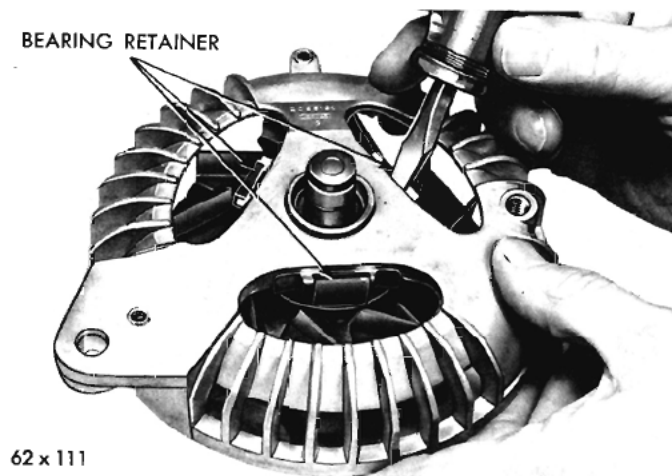

Fig. 26—Disengaging the Bearing Retainer from the End Shield
(8) Pry the drive end bearing spring retainer from the end shield with a screwdriver (Fig. 26).
(9) Support the end shield and tap the rotor shaft with a plastic hammer to separate the rotor from the end shield.